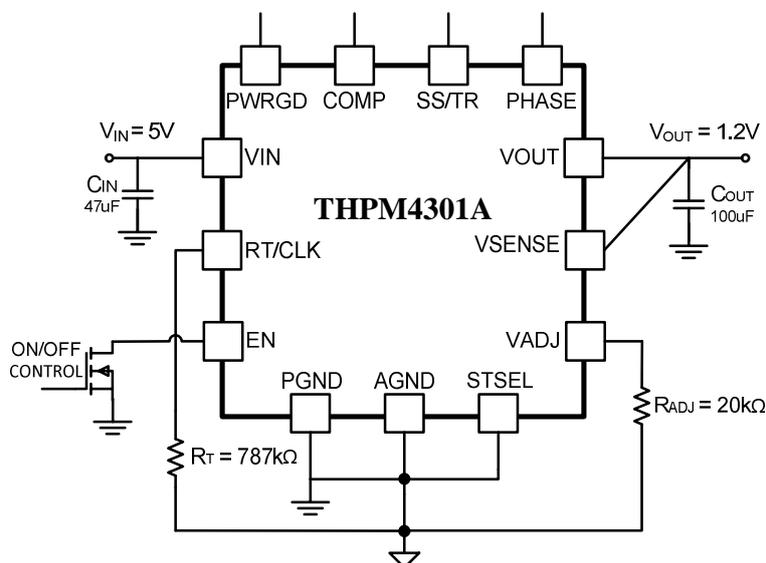

Fig. 22 Typical Schematic  $V_{IN} = 2.95V$  to  $6.0V$ ,  $V_{OUT} = 1.2V$ ,  $F_s = 500kHz$
Fig. 22 shows a typical schematic for a 1.2V output application using THPM4301A with switching frequency of 500 kHz. The adjustment resistor,  $R_{ADJ}$ , is selected as 20k $\Omega$  calculated based on Equation (1). RT/CLK is connected to ground with a 787k $\Omega$  resistor to select the recommended switching frequency. STSEL pin is connected to AGND to select the default startup time. The ON/OFF CONTROL signal is used to turn on and off the power module.